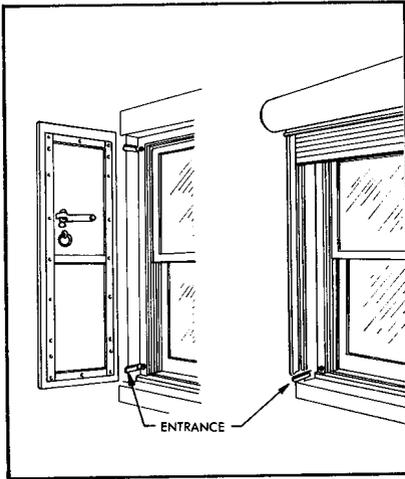

FIGURE 2. Entrance at Shutter or Fire Screen
- Bore hole in mortar joint as shown in Figure 2. Be sure slot is deep enough so wire is cleared when shutter or screen is operated.